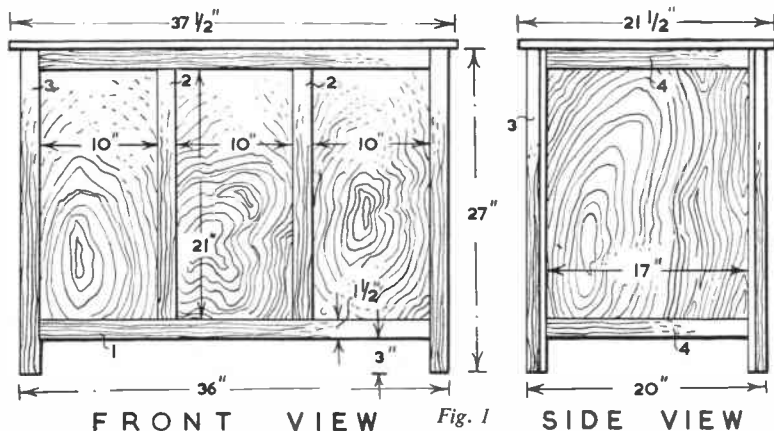
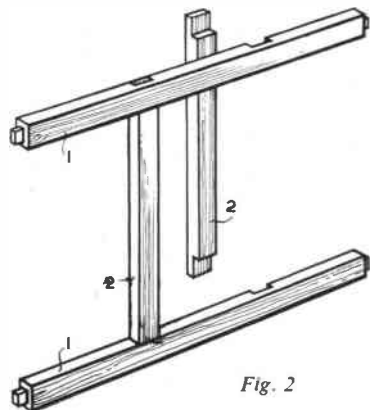

Fig. 1
Fig. 2
Fig. 1 shows how the house is built up with pieces B, C and D: the whole thing being mounted to the centre of the base 'shelf' A. Piece A is $\frac{1}{2}$ in. or $\frac{3}{8}$ in. wood with sloping ends, cut to the dimensions stated. Two $\frac{3}{8}$ in. pieces of soft wood are used for the sides of the house B. Mark out the doors and the window, and cut these away with a fretsaw on the front panel. The rough side of hardboard gives a 'stone' effect for this piece. The roof is of $\frac{1}{2}$ in. plywood.
Fig. 2 gives a detail of the mechanism viewed from the rear.
Fig. 1 to see the general arrangement and the main measurements. Note that the lid overhangs slightly all round. The side frames are made up as seen in Fig. 2. The two uprights (2) are halved into pieces 1, and the ends of pieces 1 are tenoned as indicated. These tenons must be cut accurately to ensure a good fit when assembling. Use 1½ in. by 1 in. wood for these pieces.
The photograph shows that the two boys are on different sides of the picture, and this may give you a clue to the secret. We require some attachment which will divide the field of vision into two halves — you can make more divisions, of course, but this will be more complicated. This consists of some kind of enlarged lenshood or a box with two doors at the front, as shown in Fig. 2.
Fig. 1 shows a piece of blockboard 9 in. by 6 in., marked to allow for a $\frac{1}{2}$ in. splay at the front and at the top, as shown by the dotted lines. A wedged-shaped piece is cut from the top front of the ends, as shown in Fig. 2.
Quarter round beading of $\frac{3}{8}$ in. size is then fixed by means of adhesive and panel pins, as shown in Fig. 2, to allow for a $\frac{1}{4}$ in. clearance at the bottom and the back. Terminate the beading $\frac{1}{2}$ in. from the top.